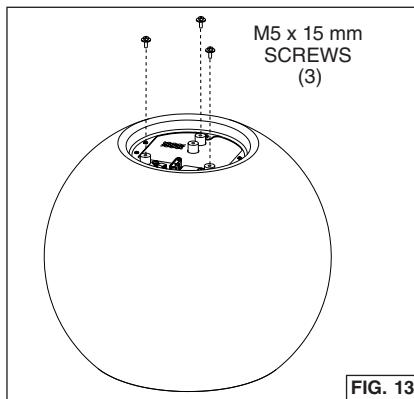

FIG. 13
1. Thread (3) M5 x 15 mm screws into range hood body, but do not tighten. Fig.13.